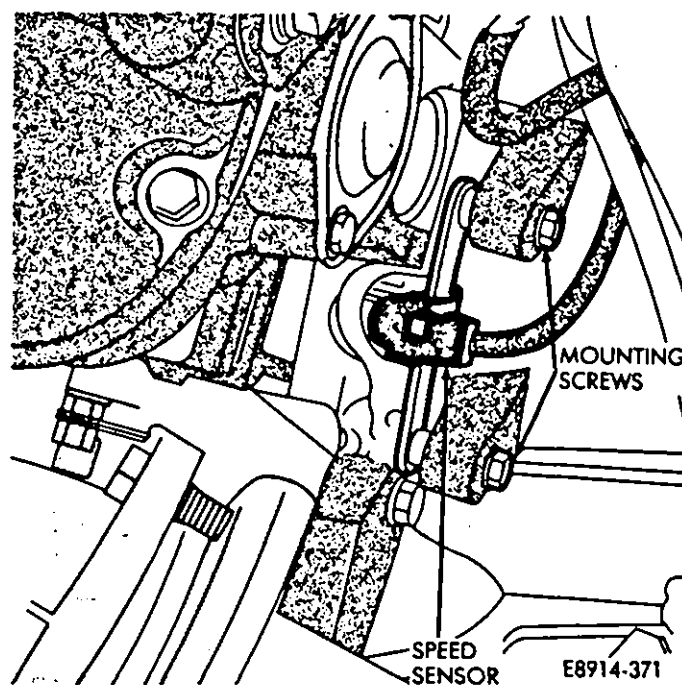

Fig. 16—Engine Speed Sensor Removal/Installation
The Speed Sensor is located on the left side of the transmission converter housing behind the rear face of the engine (Fig. 16).
- (1) Remove the speed sensor mounting screws (Fig. 16).
- (2) Disconnect speed sensor wire connector.
- (3) Remove speed sensor.
- (1) Install speed sensor (Fig. 16).
- (2) Tighten mounting screws to 8 N·m (71 in-lbs) torque.
- (3) Connect wire connector to speed sensor.